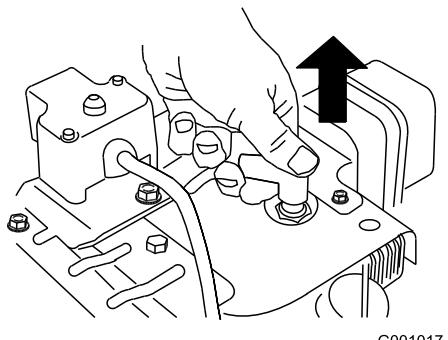

Figure 39
- Disconnect the spark plug wire (Figure 39).